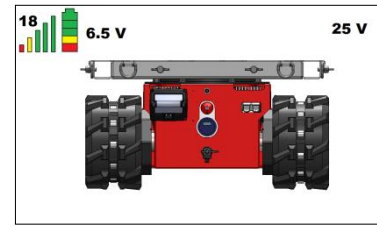

Figure: 12
- The display shows the following screen (see figure 12).